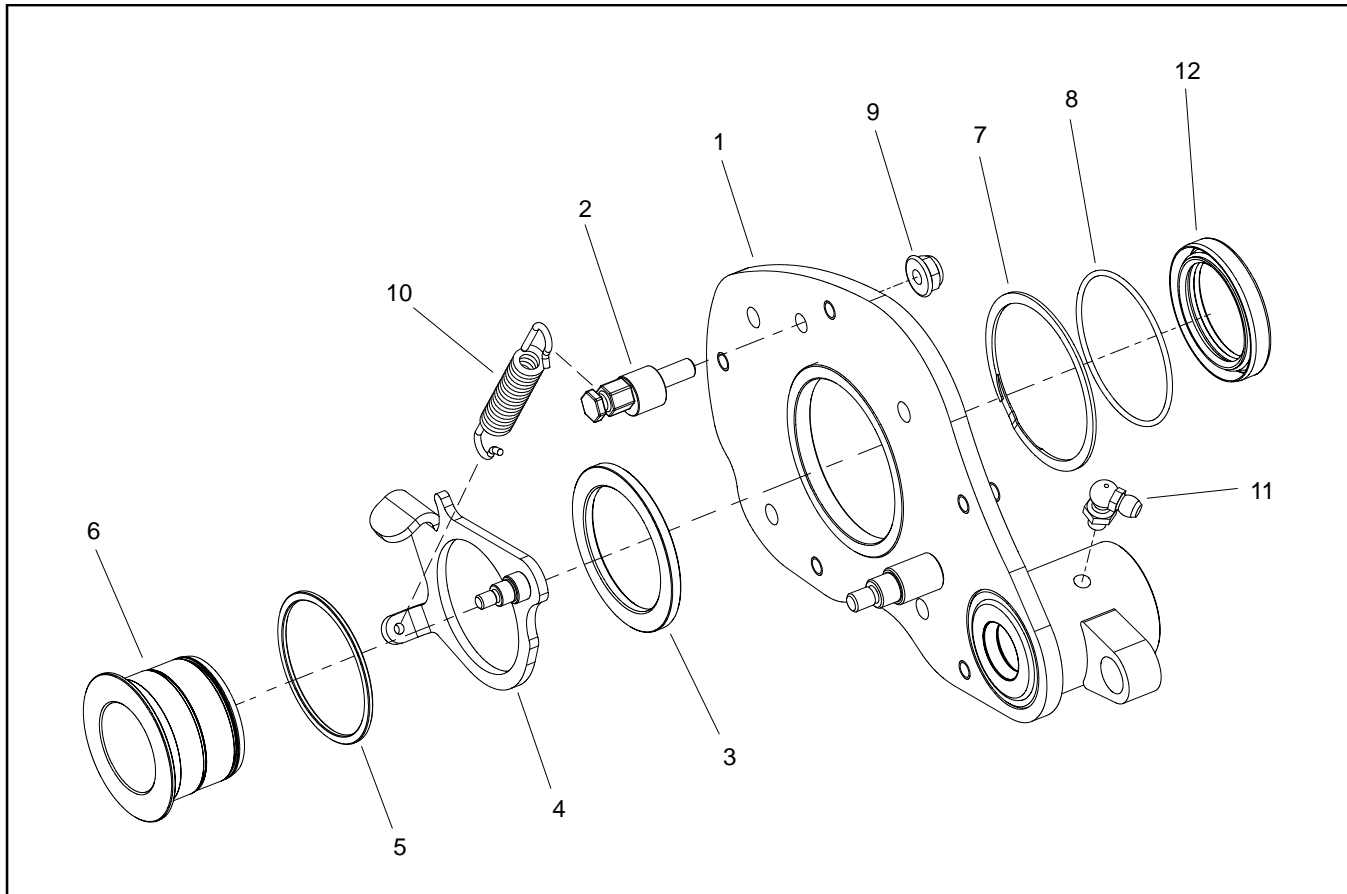

Figure 26
Disassembly (Fig. 26)
5. Using Figure 26 as a guide, remove idler components from RH drive plate as needed.
Assembly (Fig. 26)
1. Assemble idler components to RH drive plate using Figure 26 as a guide. Make sure that retaining ring (item 7) is fully seated in groove of reel hub after assembly.